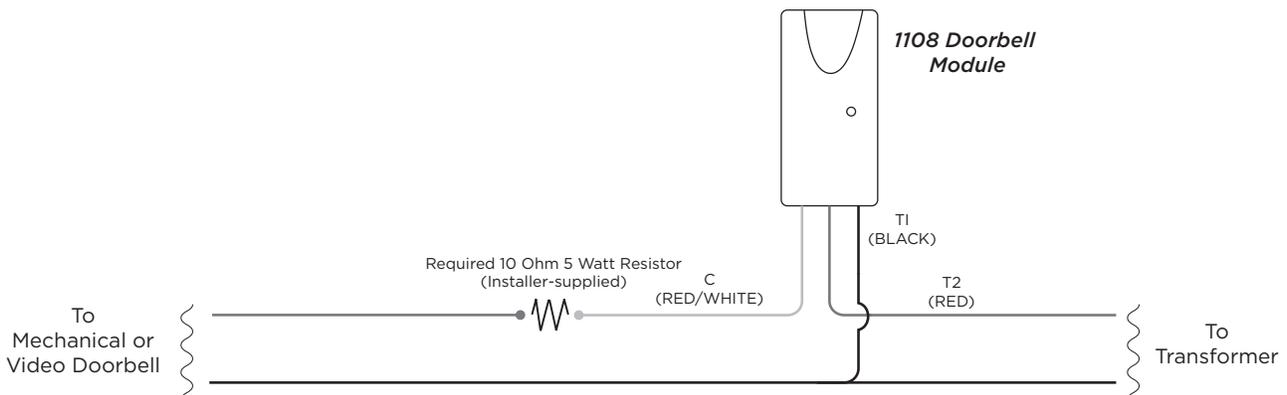

Figure 4: 1108 Wiring without Chime
- For wiring with an installer supplied 10 Ohm 5 Watt resistor instead of a chime, refer to Figure 4.